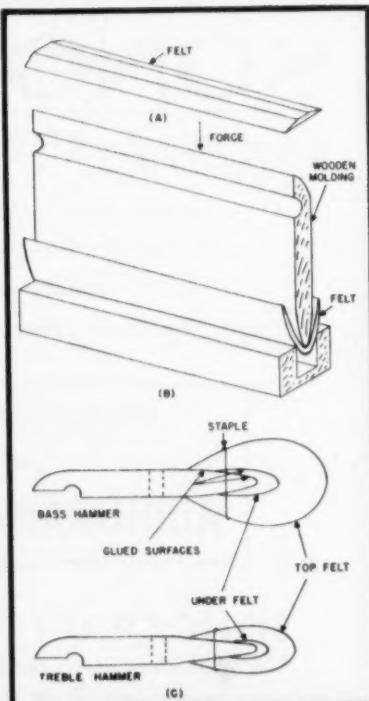

Fig. 10. Felt hammers and their construction.
We now come to the hammers. These are made as an entire group, as illustrated in *Fig. 10*. In (A) is shown a long strip of felt, cut in a jig with a sharp knife to the tapered shape shown. The felt is of special quality wool, and the manufacturers are rather proud of their product. The narrow end will be for the treble hammers; the wide end, of course, for the bass hammers.